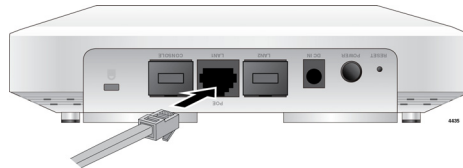

Figure 12. Connecting the Ethernet Cables to LAN1 Port
1. Connect one Ethernet cable into the RJ-45 LAN1 port. Refer to Figure 12. This is the primary Ethernet port, which is also capable of receiving PoE power.